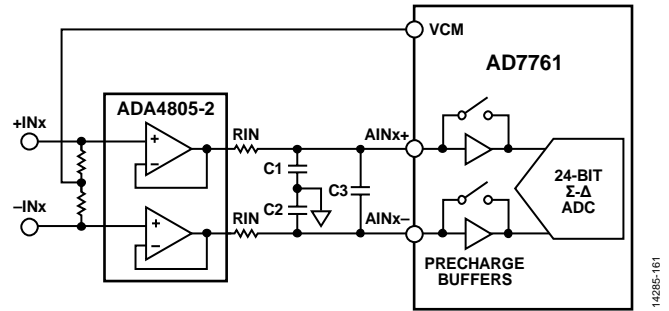

Figure 61. Typical Input Structure for an RC Network
There is a resistor/capacitor (RC) network between the amplifier output and the ADC input. Figure 61 shows a typical RC network used for the AD7761 for most amplifier pairings. The RC network performs a variety of tasks. C1 and C2 are charge reservoirs to the ADC, providing the ADC with fast charge current to the sampling capacitors. Capacitor C3 removes common-mode errors between the AINx+ and AINx- inputs. These capacitors, in combination with R_{IN}, form a low-pass filter to filter out glitches related to the input switching. The input resistance also stabilizes the amplifier when driving large capacitor loads and prevents the amplifier from oscillating.